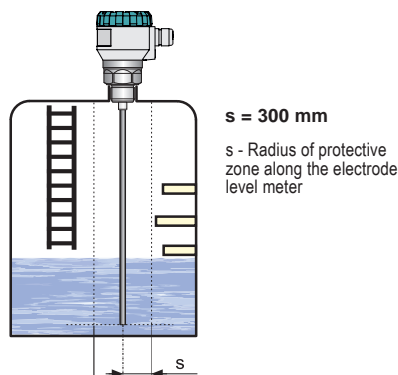

Fig. 13: Level meter installation outside obstacles in the tank
- The level meter generates electromagnetic guided wave, which creates an electromagnetic field along the electrode. Objects placed close to the electrode disturb the electromagnetic field and thus affect the measurement. Therefore, it is determined **protective zone** along the electrode of **radius 300 mm**. The level meter is recommended to install the tank so that the items placed inside the tank (ladders, various partitions, mixers, etc.) does not intervene into the protective zone, see Fig. 13.